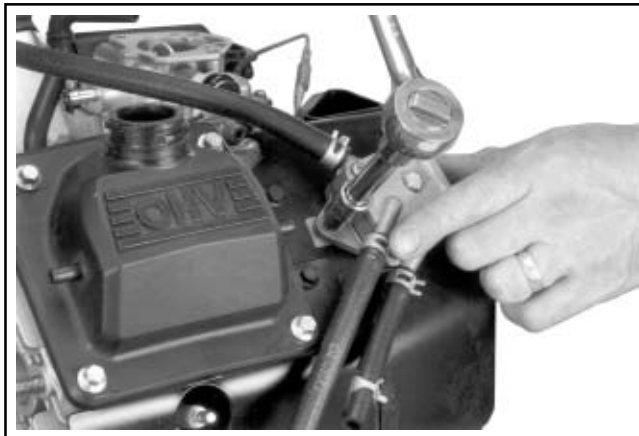

Figure 9-15. Removing Screws Holding Fuel Pump (Metal Bodied Pump Shown).
3. Remove the two hex. flange screws securing the fuel pump to the bracket or to the blower housing. See Figure 9-15. The fuel pump body may be metal or plastic.